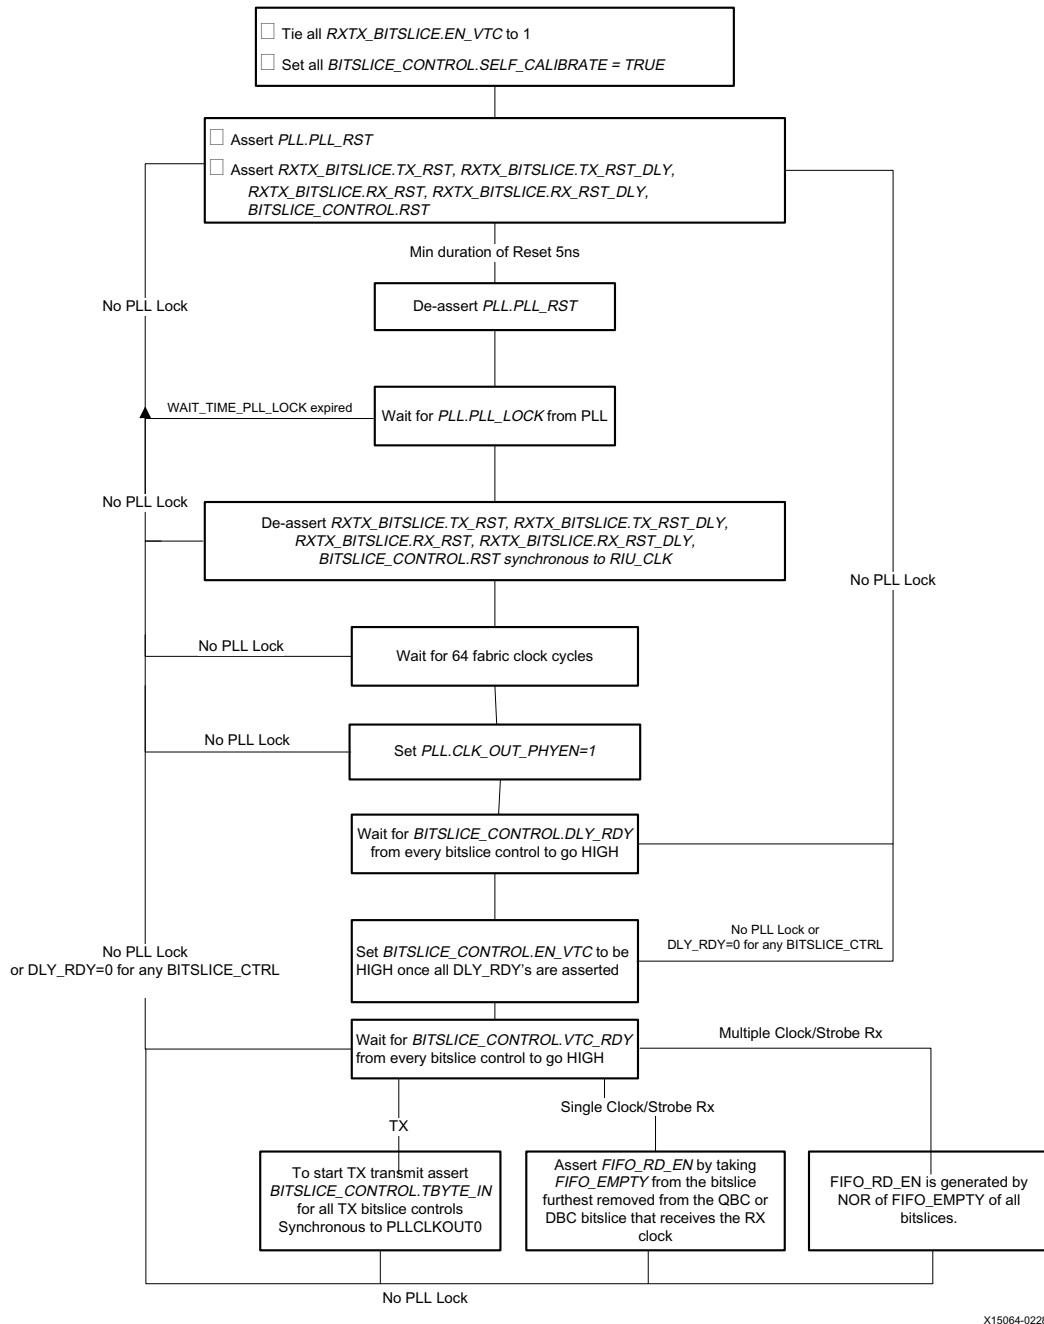

Figure 3-7: HSSIO Reset Sequence
**Note:** All wait times shown in Figure 3-7 are hard coded to one million RIU clock cycles.